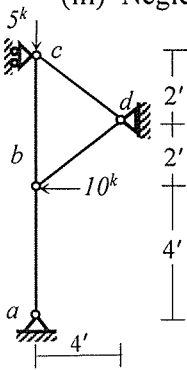

Fig.3
3. For the 2D truss loaded as shown in **Fig.3**, determine the displacements of joint b and c . Also calculate member force of cd